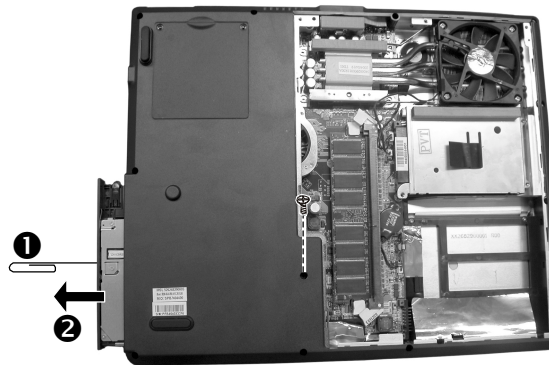

Figure 2-10 Remove the CD/DVD-ROM drive
2. Remove two screws fastening the CD/DVD-ROM drive. (Figure 2-10)
3. Insert a small rod, such as a straightened paper clip, into CD/DVD-ROM drive's manual eject hole (❶) and push firmly to release the tray. Then gently pull out the CD/DVD-ROM drive by holding the tray that pops out(❷). (Figure 2-10)